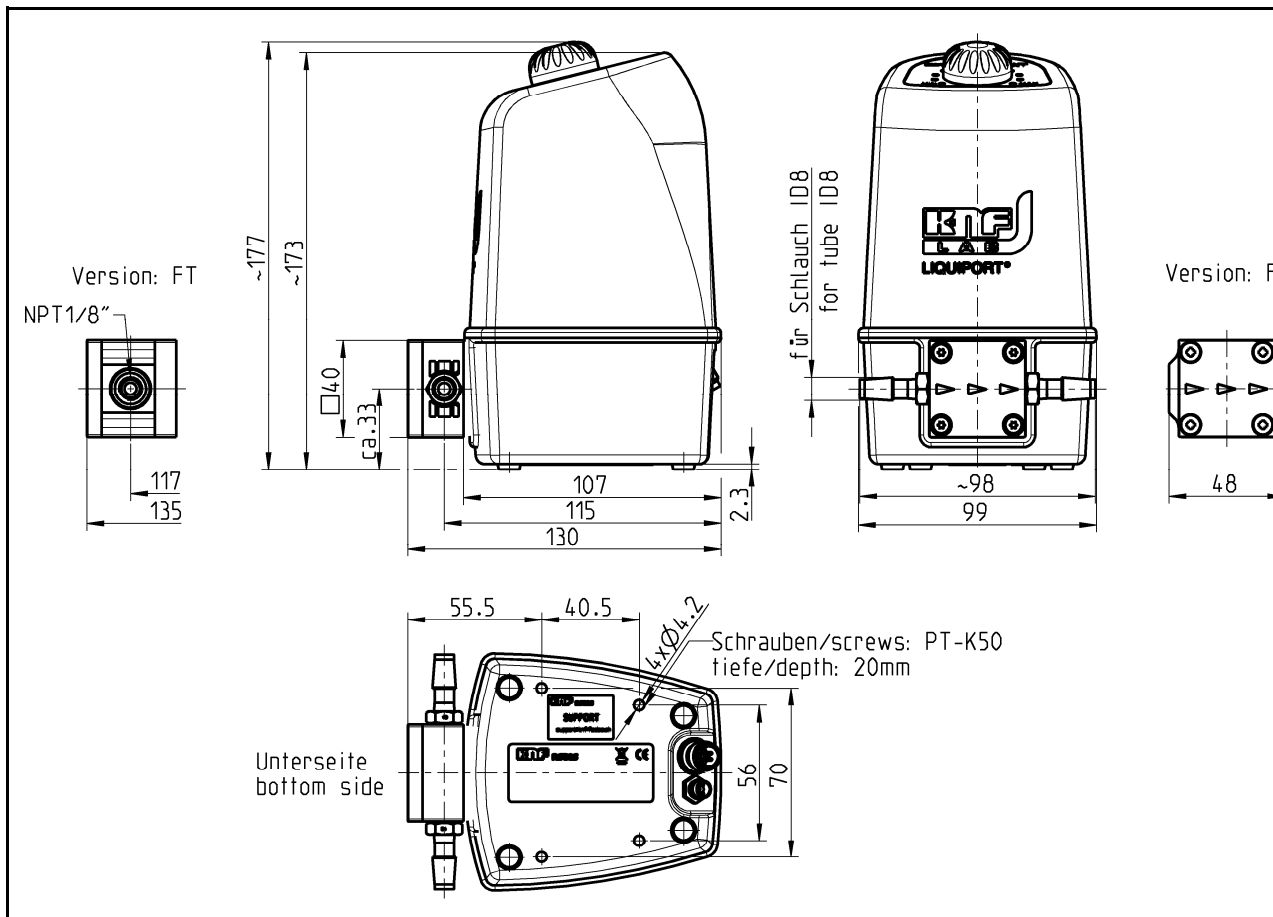
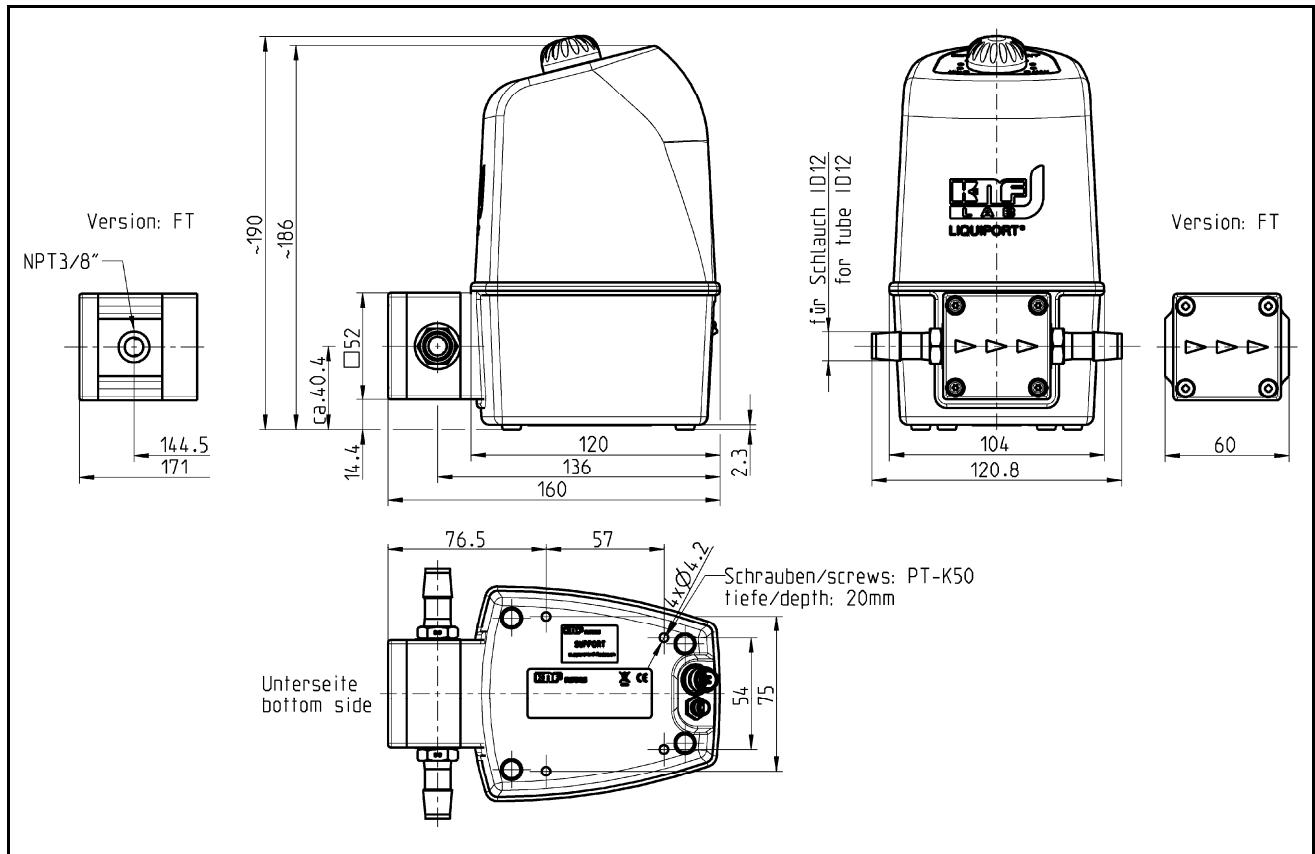

Fig. 8: Mounting dimensions for Liquiport® 100 / Liquiport® 1.100 (dimension tolerances as per DIN ISO 2768-1, tolerance class V)
Fig. 9: Mounting dimensions for Liquiport® 300 / Liquiport® 1.300
Dimensions ➔ Pump dimensions (see Fig. 8, Fig. 9)
- ➔ Two additional mounting screws can be inserted from the bottom of the pump base (see Fig. 8, Fig. 9)